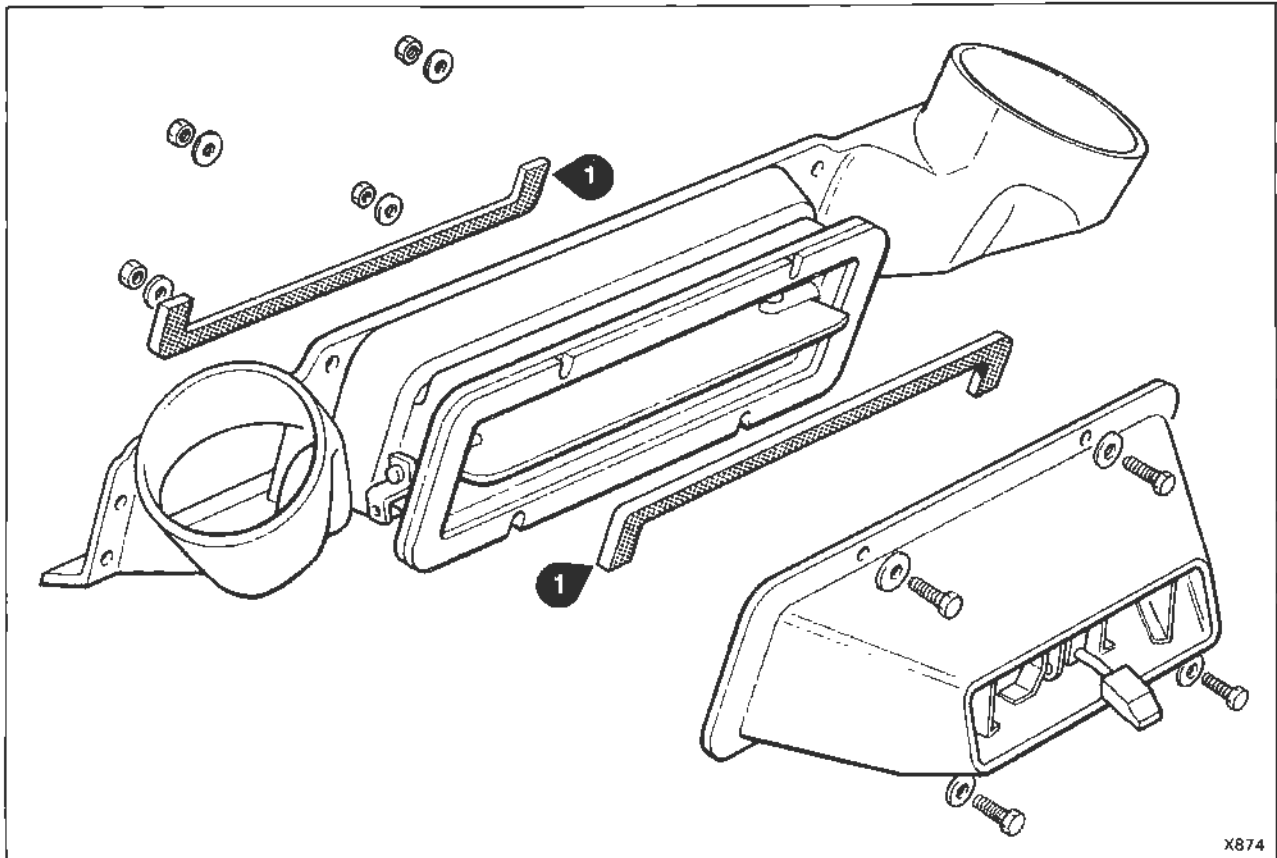

Fig. 2
5. Remove the 4 nuts and bolts, disconnect the flap connecting the linkage and carefully separate the rectangular outlet duct from the flap housing (see fig. 2).